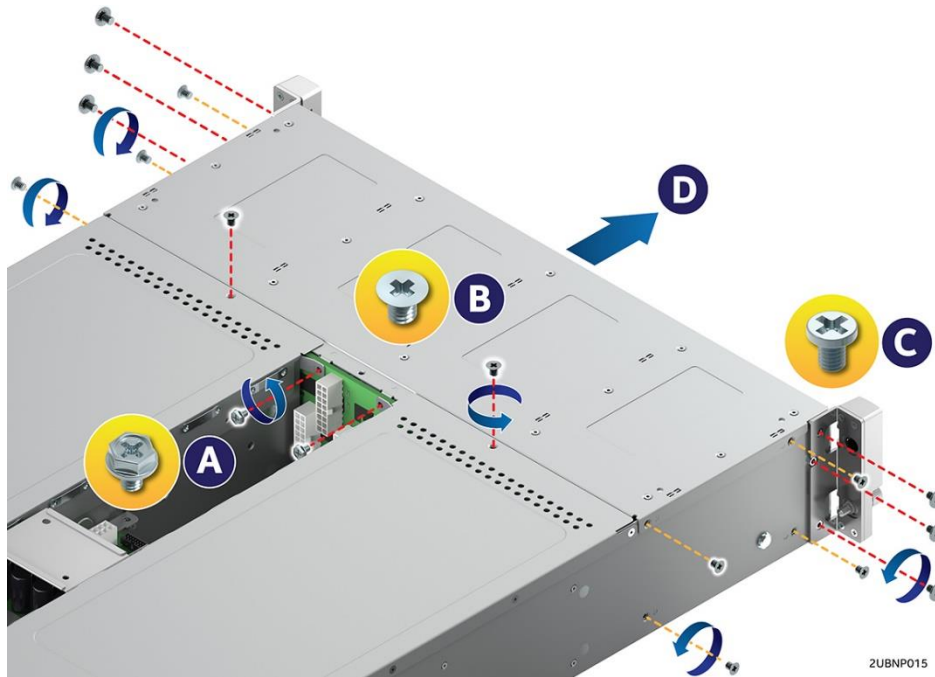

Figure 45. Removing the drive cage
4. Remove the drive cage screws (A, B and C) and pull out the drive cage (D) as shown in Figure 45. When pulling out the drive cage, be careful not to damage the front panel cables.